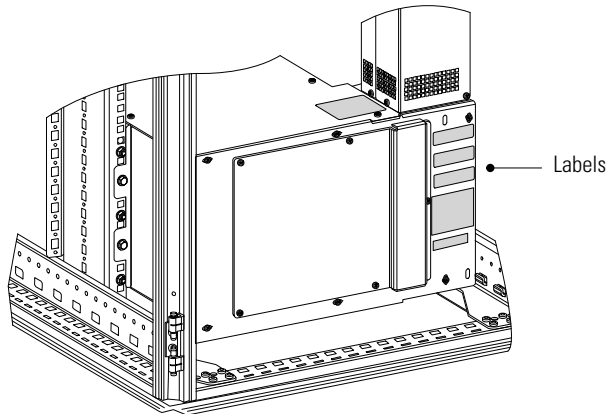

Figure 9. Wireway Labels
- 21. Verify that the six information labels are attached to the wireway as shown in Figure 9.